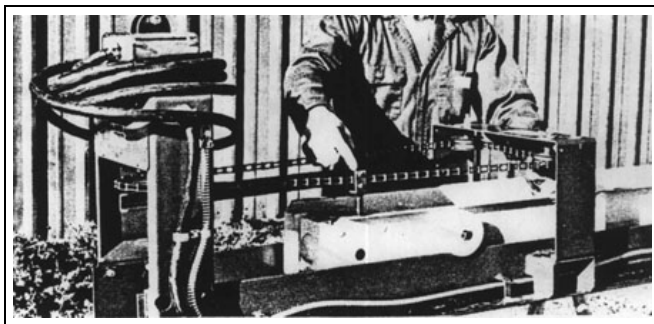

Figure 4N
18. Install center drive roller chain with connecting angle to the outside as shown in Figure 4N.
CONNECTING ANGLE MUST BE AS SHOWN IN Figure 4N or chain will lock up when going around the sprocket and pulleys.
To assure proper chain tension, grasp the chain at the halfway point between the sprocket and the idler pulley. 3/4" Movement each way is all that is advisable at this point. (See Figure 4N and Figure 7C on Page 72.)